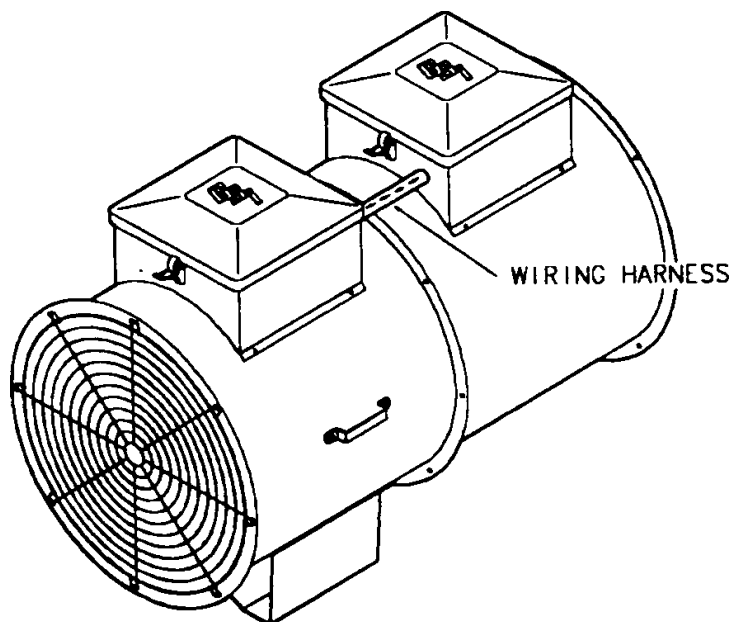

Figure 3: Illustration of electric heater wiring installation on a vane axial or inline fan unit.
1. Secure wiring harness assembly as shown in Figure 3.